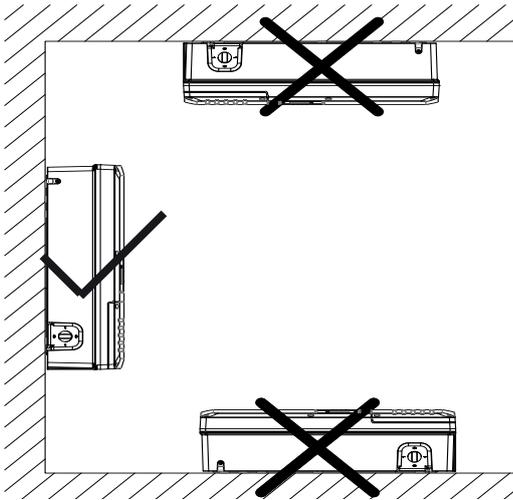

Figure 11: Instructions for wall mounting
- Minimum clearances for assembly: see Figure 11 and Figure 12 on page 19 and Figure 13 on page 19.